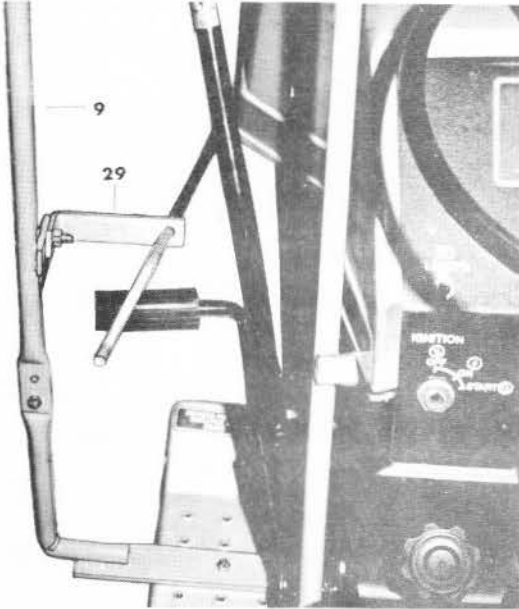

FIGURE 19
1. This section pertains to LTV tractors. SEE FIGURE 19: